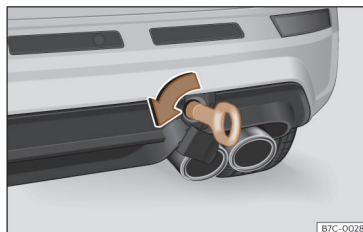

Fig. 186 Right side of the rear bumper: towline anchorage screwed in.
- Screw the towing eye in the housing by turning it to the maximum **anticlockwise** >>> Fig. 186 , >>> ⓪ . Use a suitable object that can completely and securely tighten the towing eye in its housing.